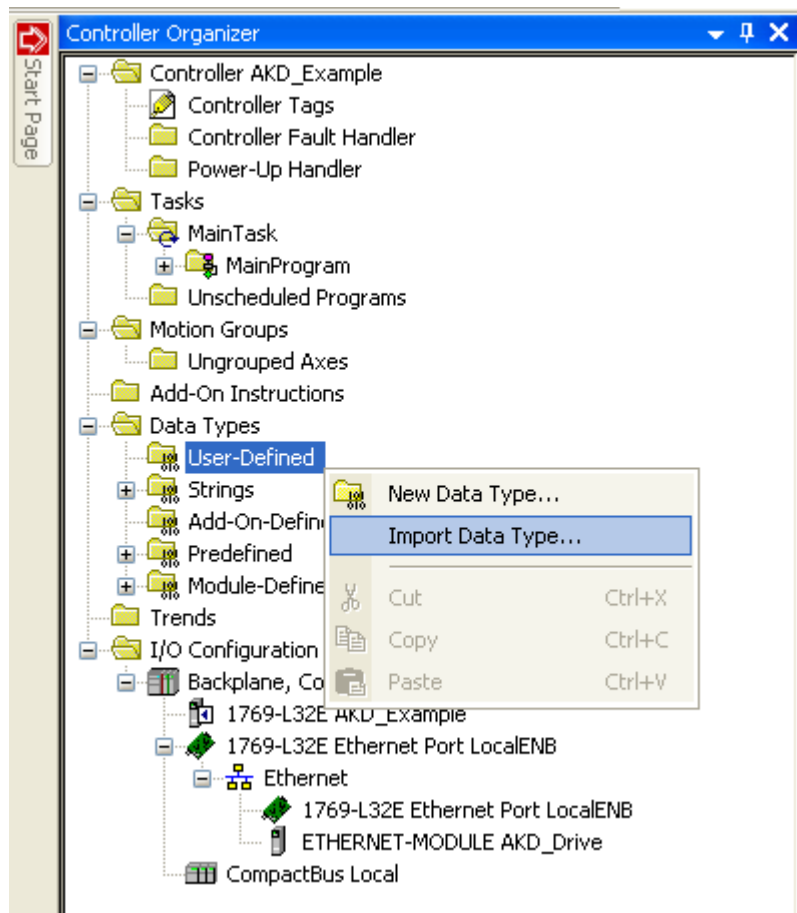

Figure 5-6: Importing Data Types
1. Right click the “User-Defined” folder under “Data Types” and select “Import Data Type...” (Figure 5-6: Importing Data Types)